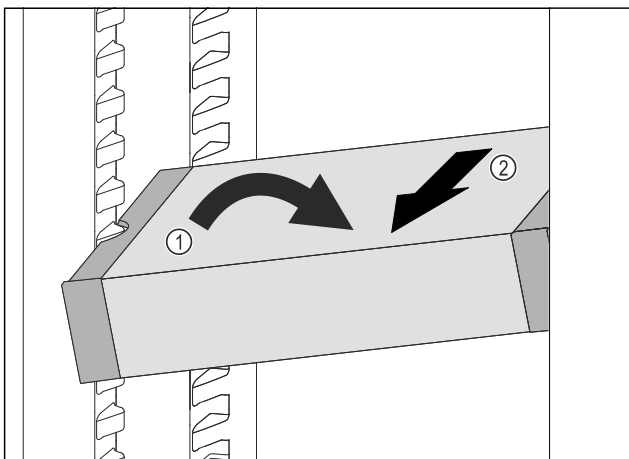

Fig. 157
- ▶ Set VarioSafe in refrigerator compartment at an angle. Fig. 157 (1)
- ▶ Take VarioSafe out to the front. Fig. 157 (2)